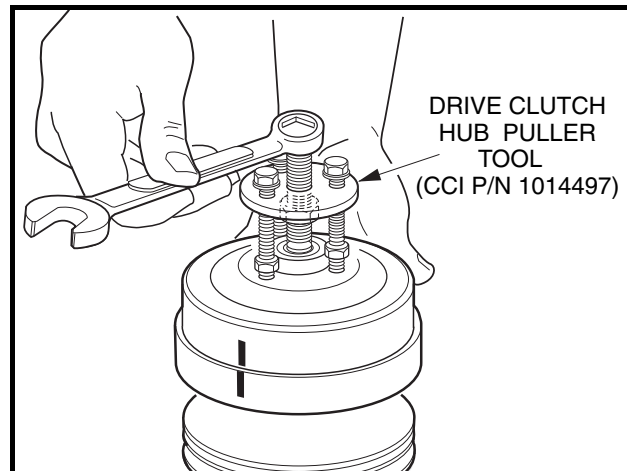

Figure 17-6 Remove Clutch Drive Hub
- 2.2. Thread the center bolt of the Drive Clutch Hub Puller (CC P/N 1014497) into clutch until the stop nut touches the clutch hub or the bolt bottoms out, then back the bolt out one-half turn (Figure 17-6, Page 17-6).
- 2.3. Thread the three small bolts of the puller into the puller attachment holes in the clutch. Tighten bolts evenly, making sure the face of the puller plate is parallel to the clutch face (Figure 17-6, Page 17-6).